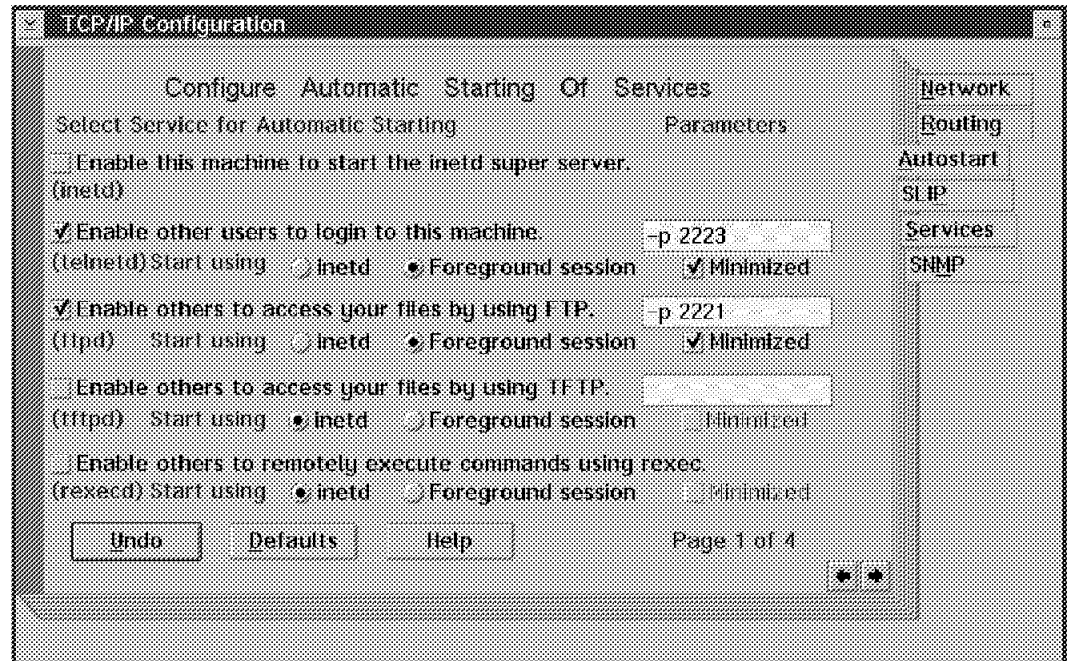

Figure 157. 3172 TCP/IP Configuration Autostart Page
- Step 6. The window, when properly filled in, should look like Figure 157.